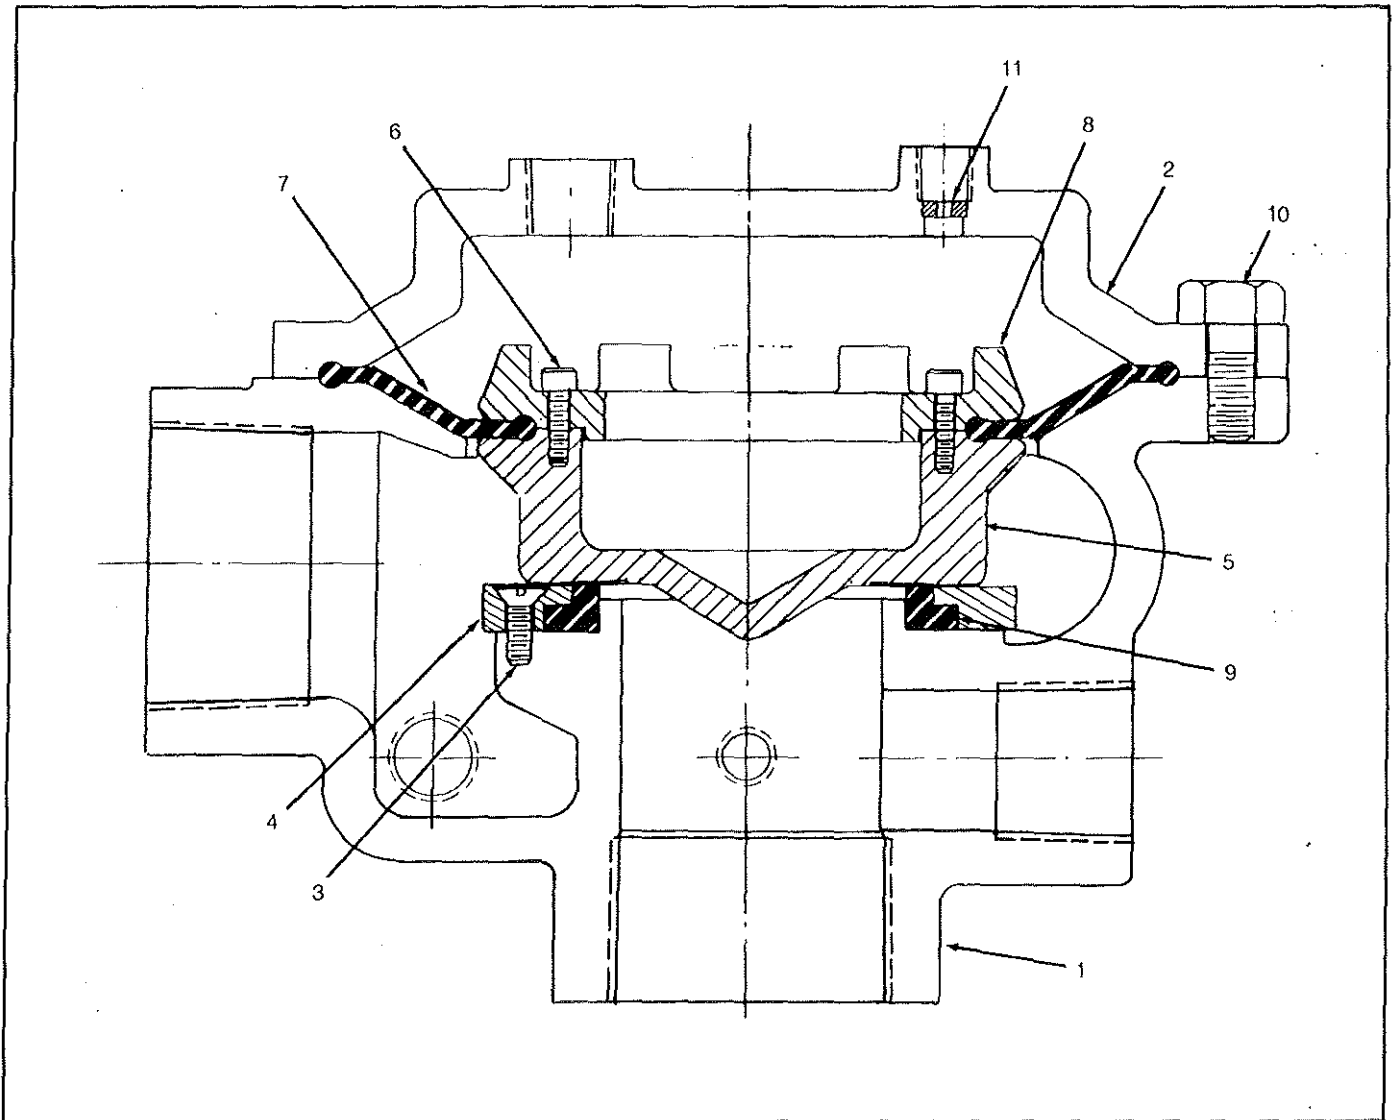

Figure 10
2. Steady Water Flow into Drip Cup. This condition is caused by water leaking past the Piston Seat Seal (9) or past the Diaphragm (7), Fig. 10. To locate and correct the trouble, proceed as follows:
- c. Open Valve C and Close Valve B or L then push the plunger on the ball drip Valve H. If water flows from the ball drip the Diaphragm (7) is leaking and must be replaced; proceed as follows:
- 4) Remove the assembled Piston (5) and Diaphragm (7), Fig. 10.
- 5) Remove 8 Screws (6) holding the Diaphragm Clamping Ring (8). Remove the Clamping Ring (8) and Diaphragm (7).
- 6) Install a new Diaphragm (7) with the cone shape facing away from the Piston (5) Face. Install the Clamping Ring (8) and Screws (6) and alternately tighten the screws until the clamping ring is metal to metal tight to the piston.
- d. If no leakage was found in 2c above, then close Drain Valve A and slightly open the Valve controlling water supply pressure to the deluge valve. Wait 15 minutes, then push the plunger on the ball drip. If water flows from the ball drip, the Piston Seat Seal (9) is leaking and must be replaced; proceed as follows: